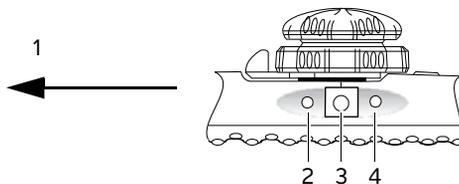

Figure 2-7 Scan plane rotation controls
The scan plane rotation is driven by a motor in the transducer handle and is controlled by buttons on the handle (see Figure 2-7).
- ❖ Press the biplane button (the center button) on the transducer handle. See Figure 2-7 on page 2-9. The scan plane rotates at full speed from the current position to the orthogonal position. (For example, if the present position is 22°, the scan plane rotates to 112°. If the present position is 162°, the scan plane rotates to 72°.)
- 3 Press the scan plane control buttons on the handle to rotate the scan plane counterclockwise (0° to 180°) and clockwise (180° to 0°). See Figure 2-7 on page 2-9.